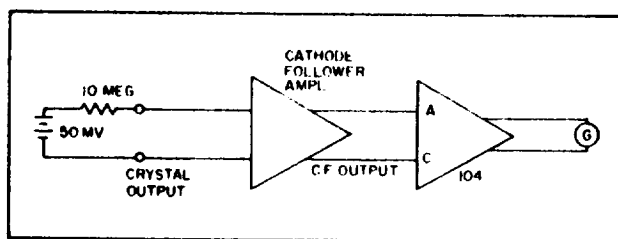

Figure 5-13. Equivalent Output of Crystal Pickup
2. Crystal Accelerometer and Pressure Pickups. Figure 5-13 illustrates, in simplified form, the equivalent output of a crystal pickup. Although the output signal is at a usable level, the very high output impedance of this device completely exceeds the source impedance requirement of the Accudata family of amplifiers. These devices are usually accompanied by a cathode follower amplifier, furnished by the manufacturer of the transducer. These cathode follower amplifiers serve to decouple the high impedance and provide a workable output to the Accudata 104. Typical outputs may be 1 volt rms out of several hundred, or a thousand ohms. This signal is well within the capabilities of the Accudata 104 amplifier.